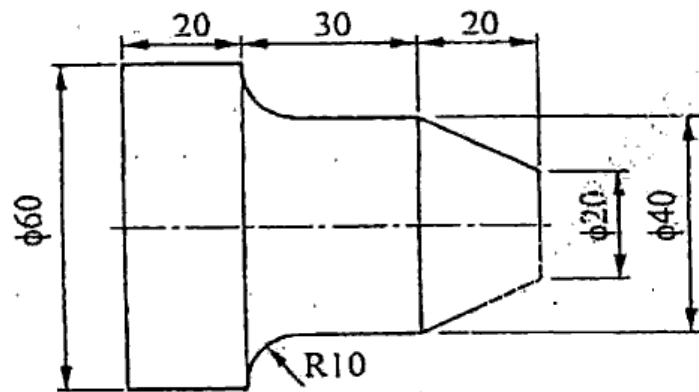

Fig. 1
b) Write a manual part program for finishing a forged component as shown in Fig. 1. Assume the spindle speed and feed for machining as 500 rpm and 0.3 mm/rev respectively. 10